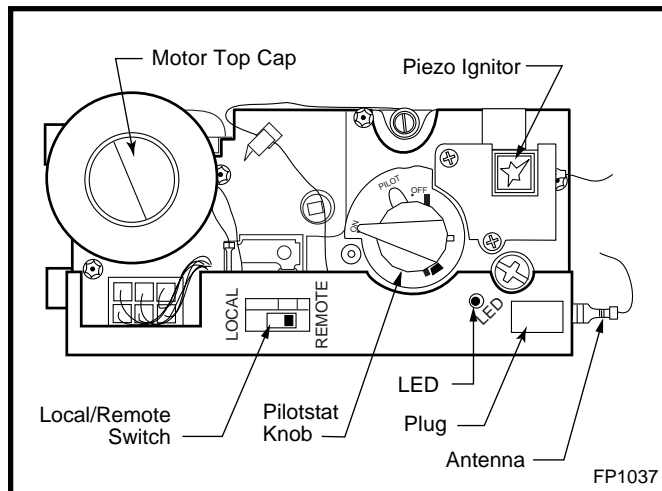

Fig. 55 Comfort control valve.
1. If the manual switch is in remote position, switch it to LOCAL. (Fig. 55)